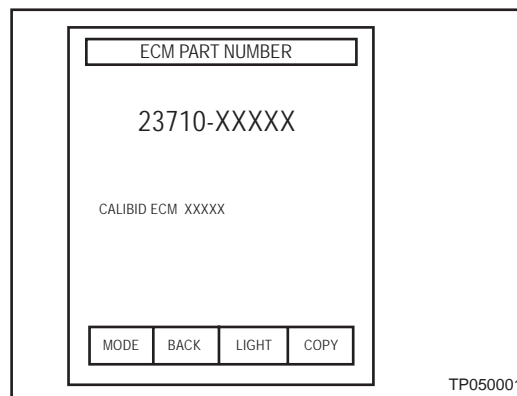

Figure 2
4. Using the ECM P/N printout from Step 2 (Figure 2):